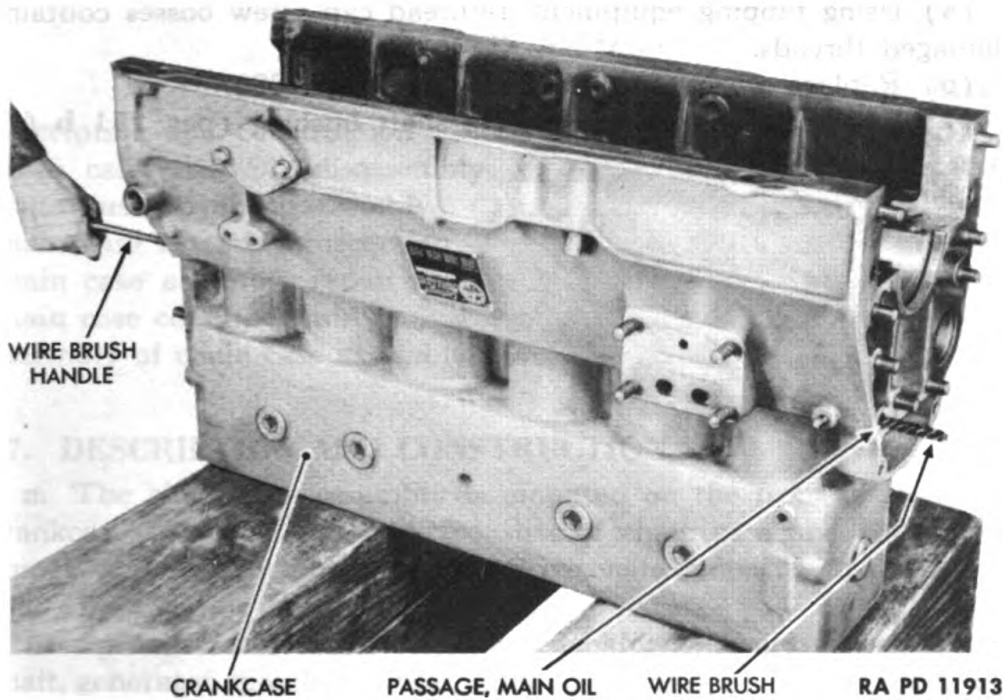

Figure 93—Cleaning Crankcase Main Oil Passage
c. The main or gallery oil passage is drilled lengthwise through the right-hand side of the crankcase, 11¼ inches from top (fig. 93). Oil passages are drilled from the main oil passage to each crankshaft bearing support, and from the front, third, fourth, fifth and rear crankshaft bearing supports to the camshaft bushing supports (fig. 155). An oil passage is drilled from the front camshaft bushing support to the top left front corner of the crankcase. Through this passage, oil passes to lubricate the rocker arm and shaft assembly (fig. 155). Another oil passage is drilled from the idler adjusting shaft boss to the front crankshaft bearing support (fig. 155). An oil passage, 1 inch long, is drilled from the oil pressure relief safety valve boss to the front of the crankcase. Through this passage the pressure relief valve discharges oil when oil pressure is too high (fig. 155).
Immerse crankcase in SOLVENT, dry-cleaning, then dry with compressed air. Clean the 16 drilled oil passages (par. 84, c for location) with a wire brush (fig. 93). Blow out water jacket with compressed air.